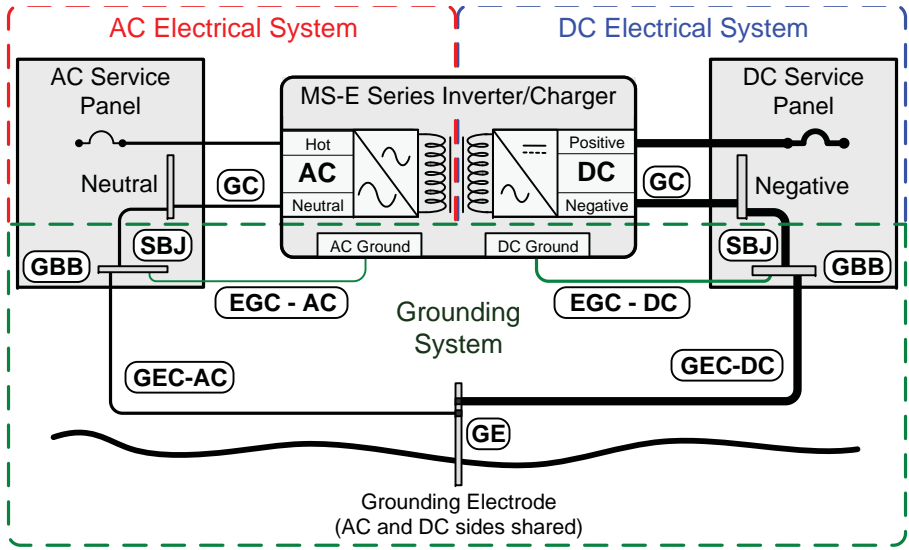

Figure 2-12, Multiple Connections to DC Ground Rod (Method 2)
**Method 2 (Figure 2-12):** When the AC and DC service panels are near each other, then the AC grounding electrode conductor (GEC-AC) and the DC grounding electrode conductor (GEC-DC) can be connected to a single grounding electrode (GE). In this method—since there are multiple connections to the DC grounding electrode (GE-DC)—the size of the DC grounding electrode conductor (GEC-DC) can not be smaller than the largest conductor in the DC system (usually the battery-to-inverter cable).